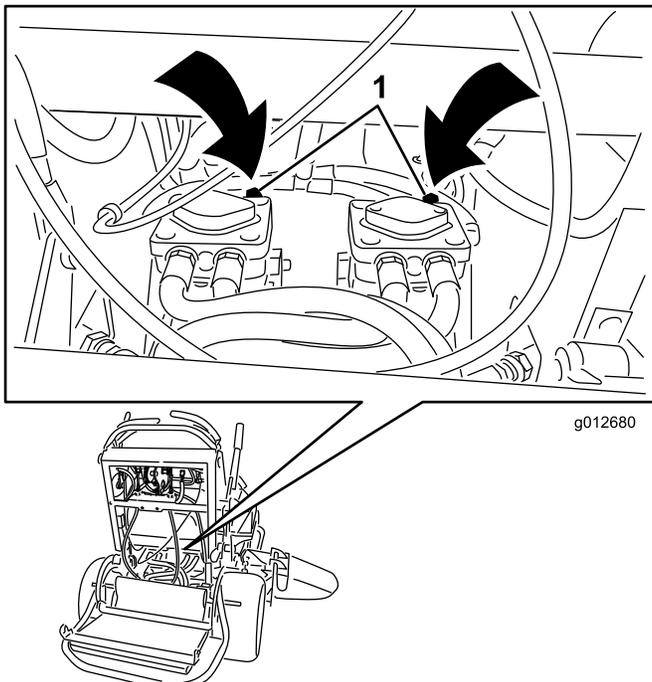

Figure 23
3. Open the bypass valve on both pumps by turning them counterclockwise 1 to 2 turns (Figure 23).